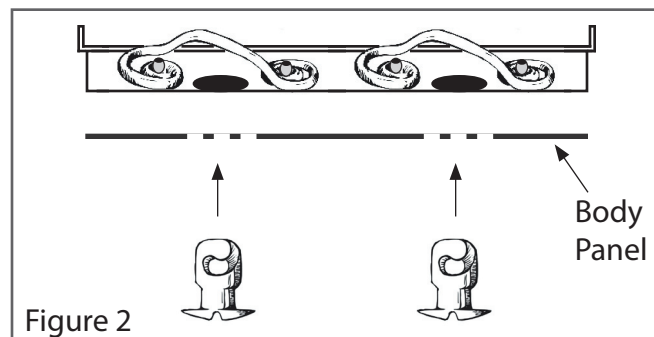

Figure 2
Secure assembled Box Mount (A) to holes previously drilled in body panel using four Quick Turn Fasteners (B). Figure 2 and 3.